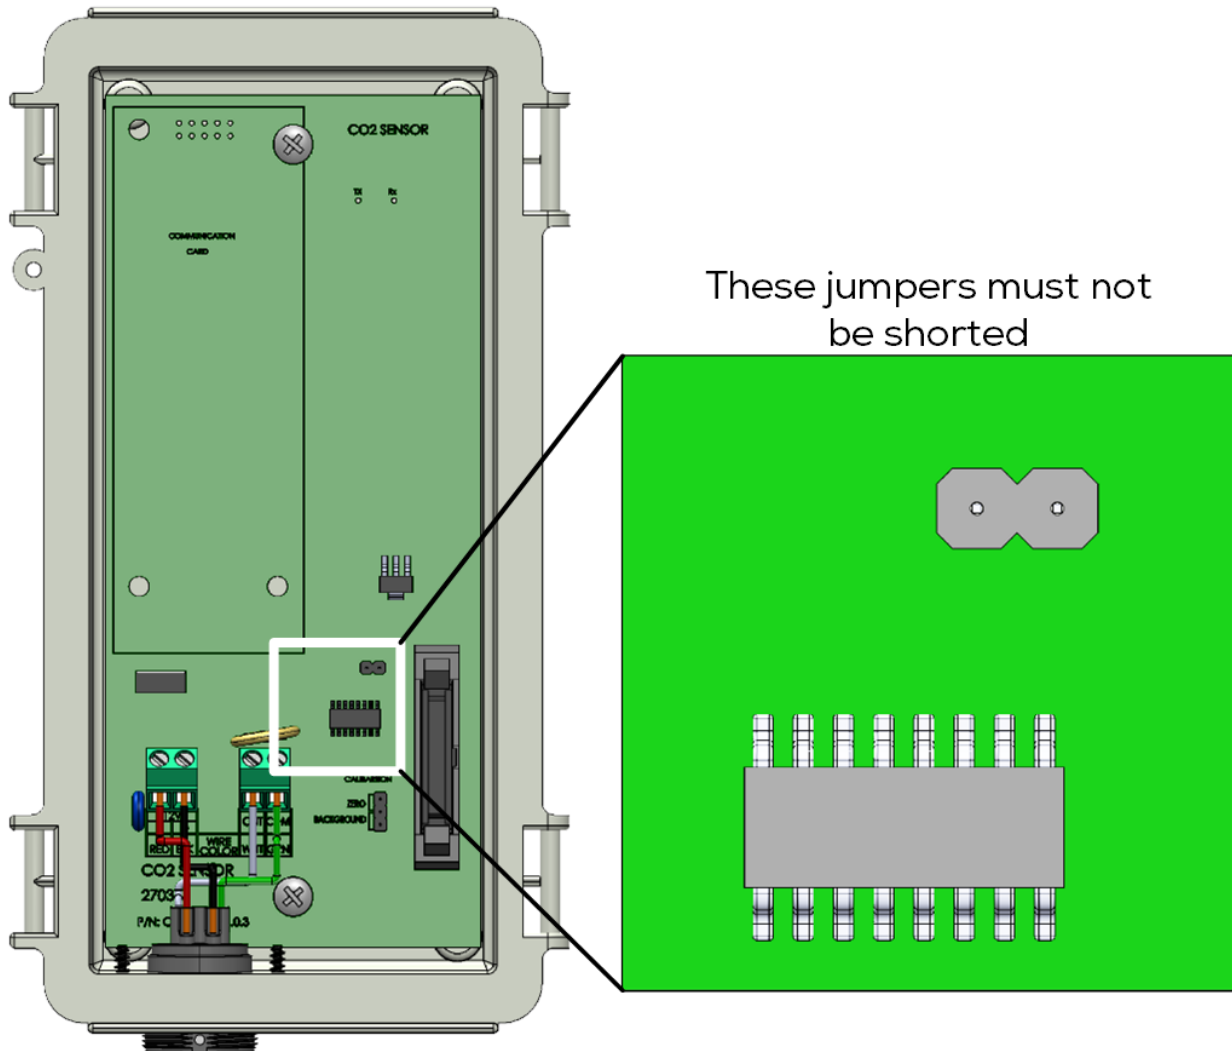

Figure 4: J2 Jumper
- Verify that J2 is not shorted (refer to Figure 4).